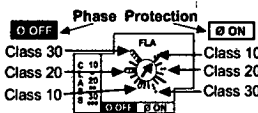

Figure 2
b) Push and Hold the **TEST** Button down with the other tool. When the LED first flashes, rotate the FLA dial fully CCW \approx without stopping and before the LED flashes 4 times. The dial should now be positioned as in Figure 2.
d) Rotate to the **Desired Trip Class and Protection**. Refer to Figure 2 for the positions.